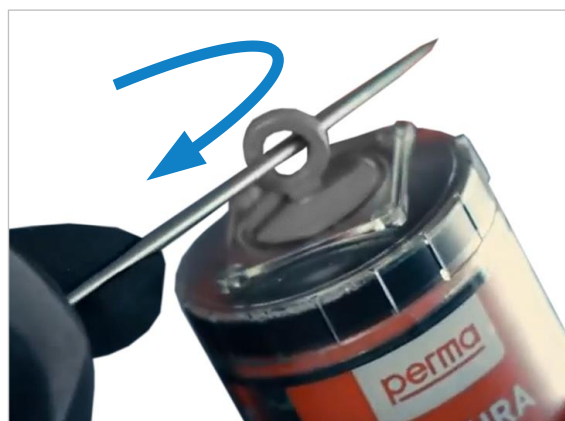

Figure 91: Activation with activation screw
- Remove the cap of the new cartridge. Release lubricant dispensing by screwing in the activating screw with a suitable tool, until the O-ring breaks off (see ⇒ Figure 91 on the right).